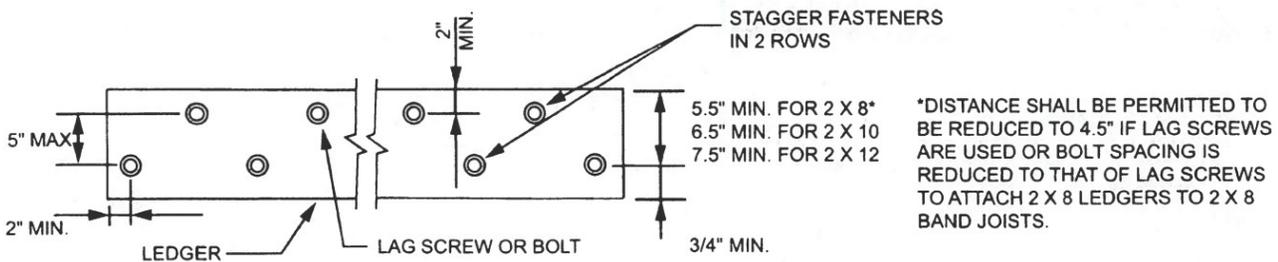

FIGURE R507.9.1.3(1)
- Lag screws or bolts shall be staggered from the top to the bottom along the horizontal run of the deck ledger in accordance with Figure R507.9.1.3(1).
- The minimum distance from bottom row of lag screws or bolts to the top edge of the ledger shall be in accordance with Figure R507.9.1.3(1).